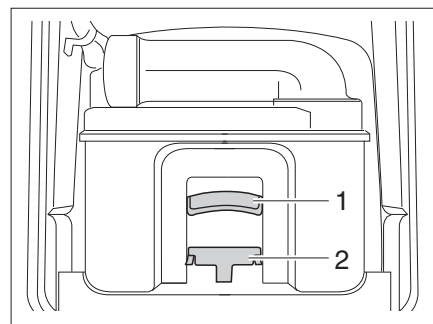

Fig. 146 Thetford cassette
- Pull the retaining clip (Fig. 146,2) forward to unlock the toilet cassette and pull out the cassette at the handle (Fig. 146,1).